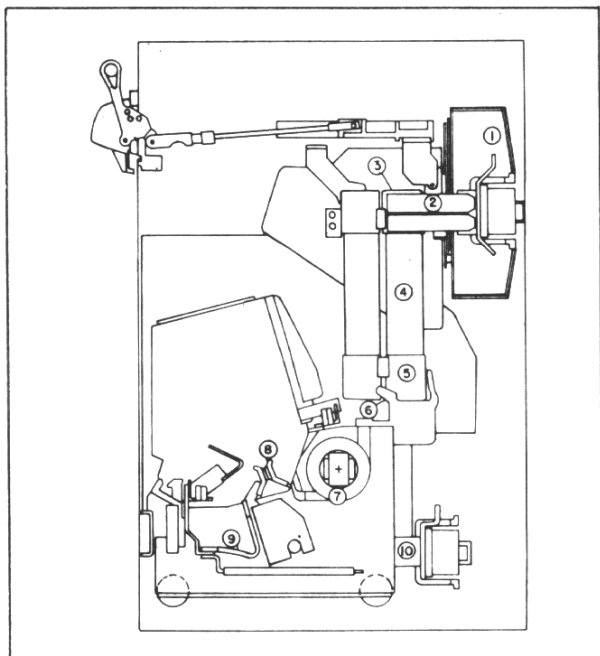

Fig. 4. Starter in Energized Position
The flow of power through the starter can be traced by referring to Fig. 4, where the starter is shown in the energized position. The line stab assembly mounted at the back of the enclosure also serves as the starter line terminals (1). The stabs themselves are engaged by the fuse jaws (2) of the isolating switch which is mounted on rails at the top of the enclosure. The line ferrules (3) of the current limiting motor starting power fuses (4), clip into the fuse jaws, and the load ferrules (5) fit into the fuse holders (6) which are part of